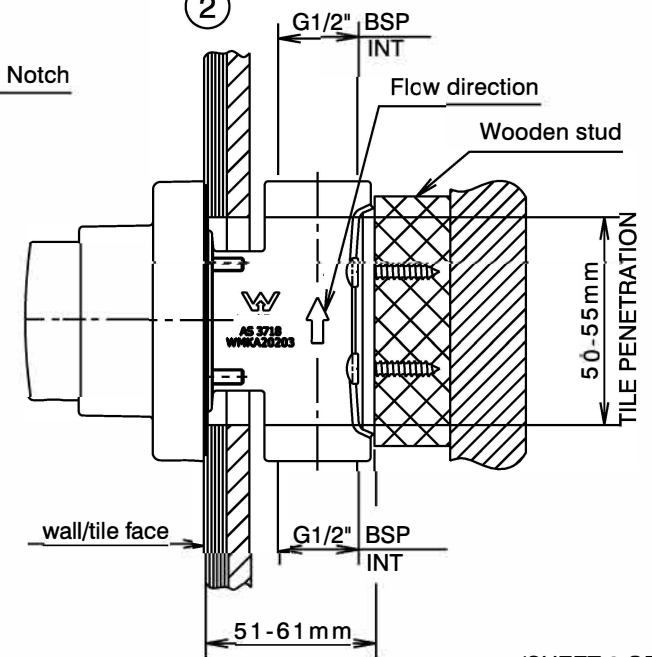

Fig. 4
- \* Trim kit items (10), (11), (12), (13), (14), (15) & (19), (20), (21) are changeable to suit different water temperatures.
- \* For inwall body kit installation, follow the instructions supplied with inwall body kit. The final installation of inwall body kit and trim kit is shown in Fig. 4.